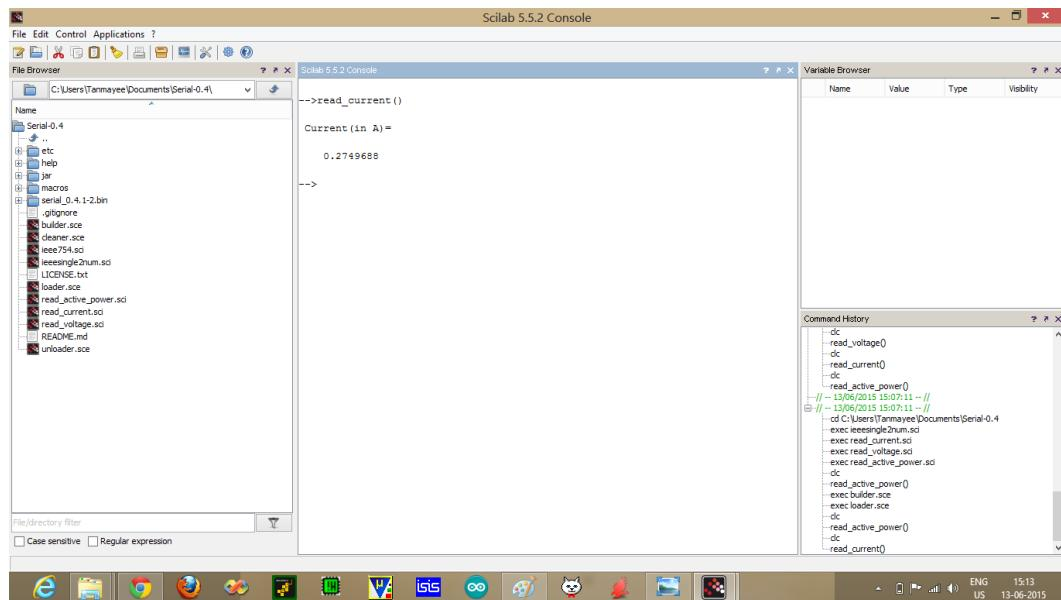
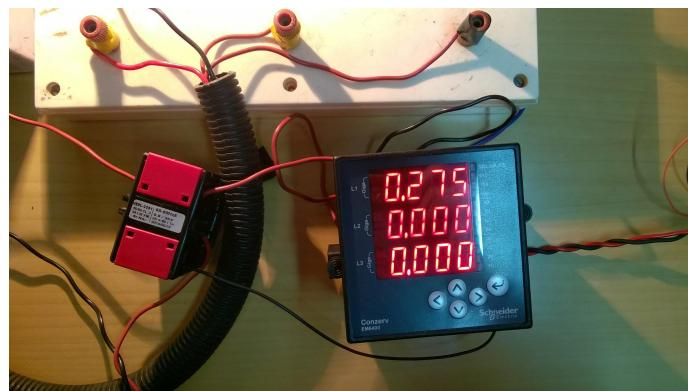

Figure 11.8: Single Phase Current Output on Scilab Console
Figure 11.9: Single Phase Current Output on Energy Meter
- Single phase current output: Fig. 11.8 and Fig. 11.9 show Scilab code output of current in Amperes and corresponding snapshot of Energy Meter display with a single load rated 60W-230V.